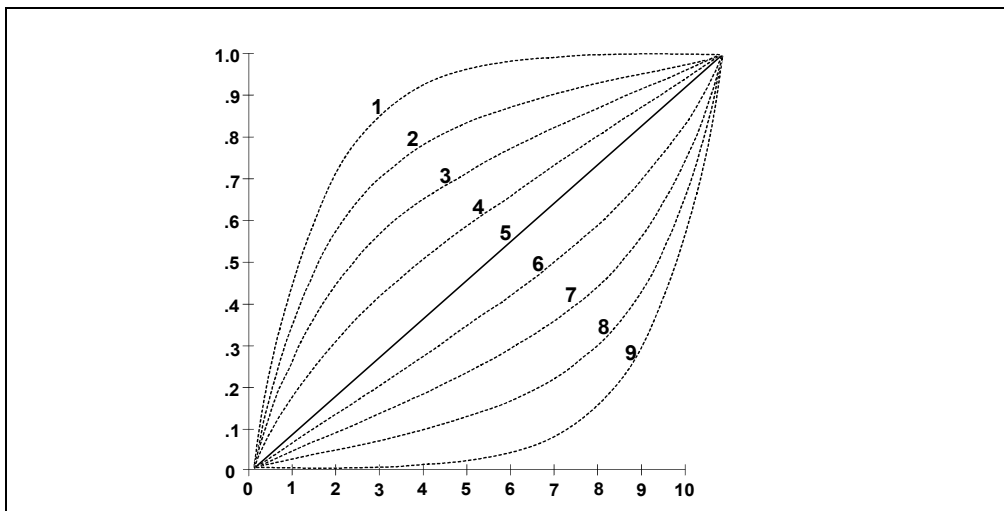

Figure 2-10. Eluent Composition Profile for Curves 1–9
The GS50 can produce step, linear, concave, or convex curves in eluent concentration over a specified time period. The slope of the gradient is determined by the selected gradient curve (see Figure 2-10) and the time between the starting and ending points of a gradient step.
- Slope changes over time become more extreme, as curves go from 6 to 9 (more concave) and from 4 to 1 (more convex). Figure 2-10 shows the eluent composition profiles corresponding to curves 1 through 9, normalized for 0% to 100% for 10 minutes.